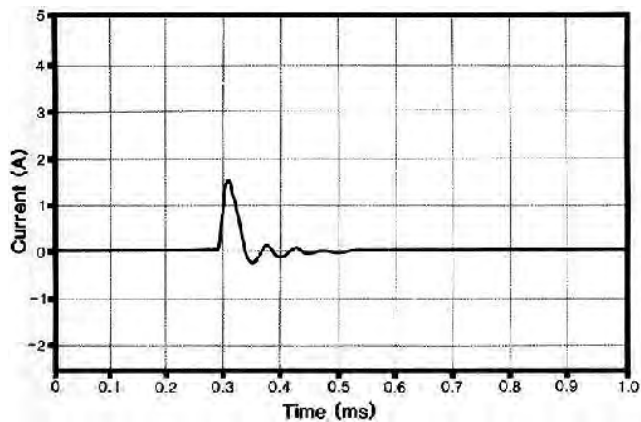

FIGURE 4. Dry Condition Current Output.
**Shock Intensity:** Current output for dry and wet conditions are shown in FIGURES 4 and 5.